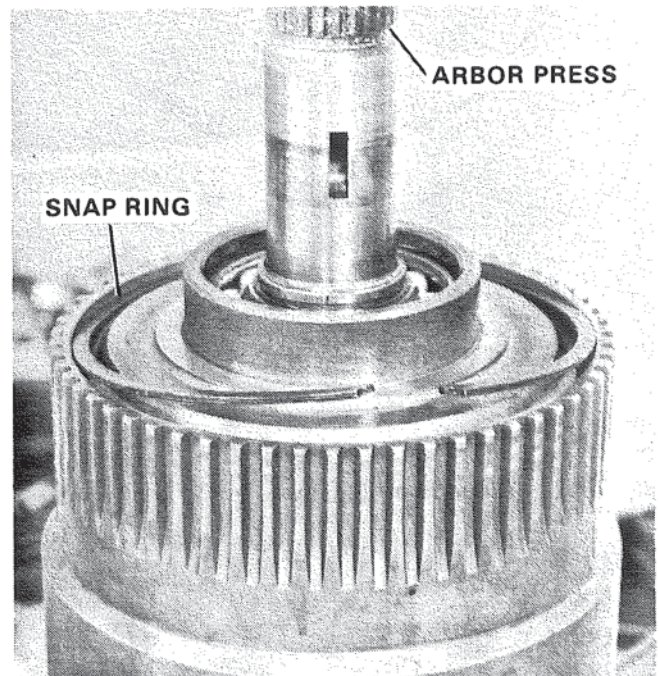

Figure 25. Removing Ring Gear Snap Ring.
2. Remove ring gear snap ring, Figure 25.